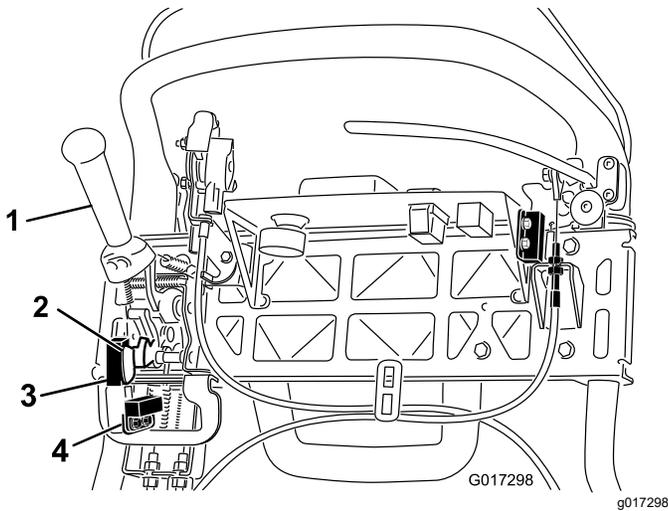

Figure 37
4. Loosen the interlock switch mounting fasteners (Figure 37).
5. Place a 1.6 mm (0.062 inch) thick shim between the traction lever and the interlock switch (Figure 37).
4. Loosen the mow sensor mounting fasteners (Figure 37).
5. Place a 1.6 mm (0.062 inch) thick shim between the mow sensor flag and the mow sensor (Figure 37).